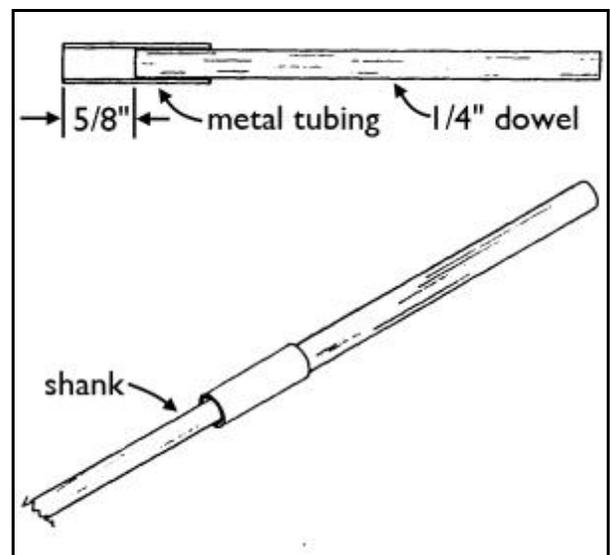

Figure 13: Hammer shank glue applicator
**2. Gluing:** Both hot hide glue and yellow wood glue are suitable. Always apply glue to *both* hammer and shank to ensure a strong joint. The device in Figure 13 makes it easy to thoroughly coat the shank.